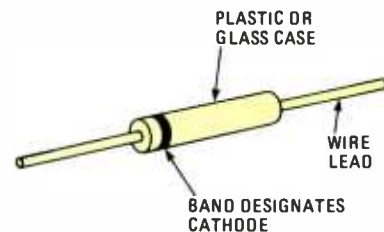

Fig. 3—This is the typical diode package. The cathode end is always marked by a band or symbol.
14. (junction) Most diodes are packaged in a small plastic or glass cylinder with wire leads, as shown in Fig. 3. A band around one end of the cylinder marks the cathode lead.